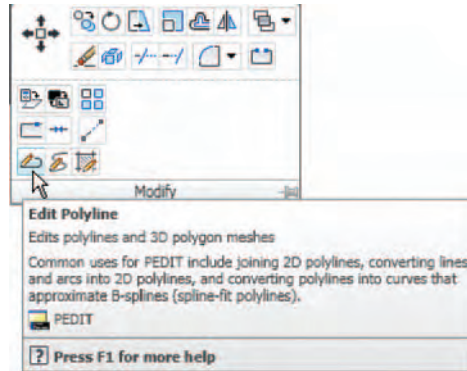

Fig. 3.42 Calling **Edit Polyline** from the **Home/Modify** panel
2. Call the **Edit Polyline** tool either from the **Home/Modify** panel (Fig. 3.42) or from the **Modify** drop-down menu, or by *entering* **pe** or **pedit** at the command line, which then shows: